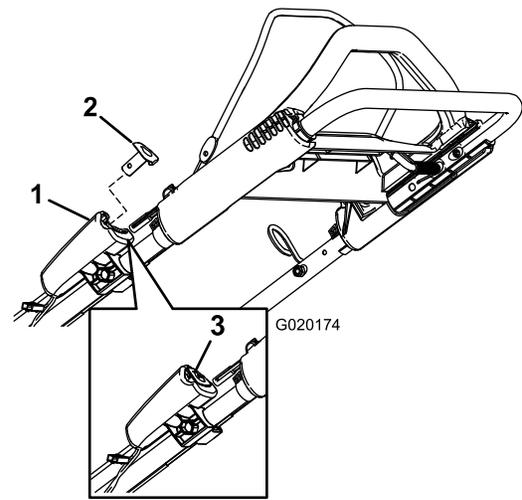

Figure 19
2. Push the electric-start button until the engine starts (Figure 19).
**Note:** If the electric-start button has been removed, insert it in the electric starter; refer to Figure 19.